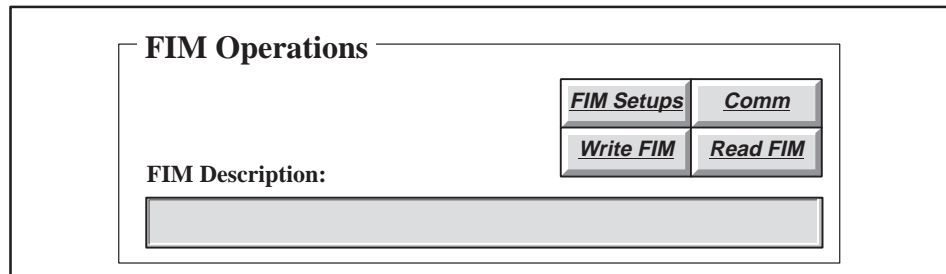

Figure 4-11 FIM Operations Area
6. Select the Comm button in the FIM Operations area. (See Figure 4-11.)